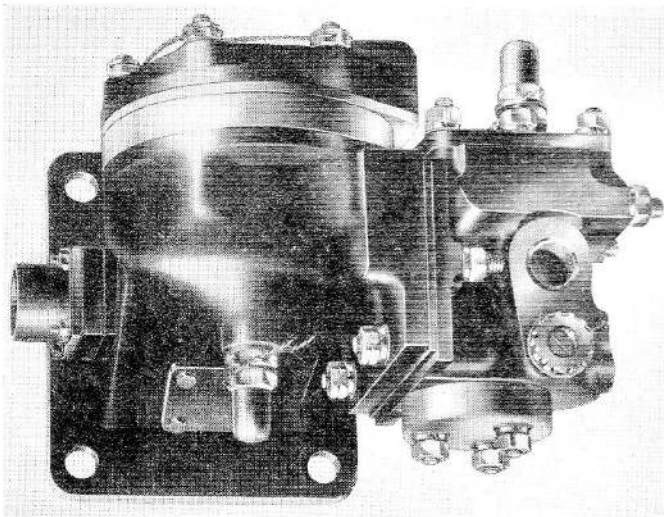

Fig. 1. Electric pressure control unit
2. The unit (*fig. 1*) is essentially comprised of two cast-alloy chambers separated by a flexible pivot plate assembly carrying a rocker lever which extends into both chambers. This pivot plate also serves as a fluid-tight seal between the two chambers. The left hand chamber, which is the yoke assembly housing has a mounting bracket cast integral with it.